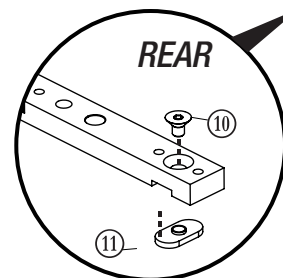

FIGURE A-2
3. At the *rear* of the other bar, install one ⑩ Flat Head Cap Screw through the counter-sunk hole and into one ⑪ Oval Weld Nut. **FIGURE A-2.**